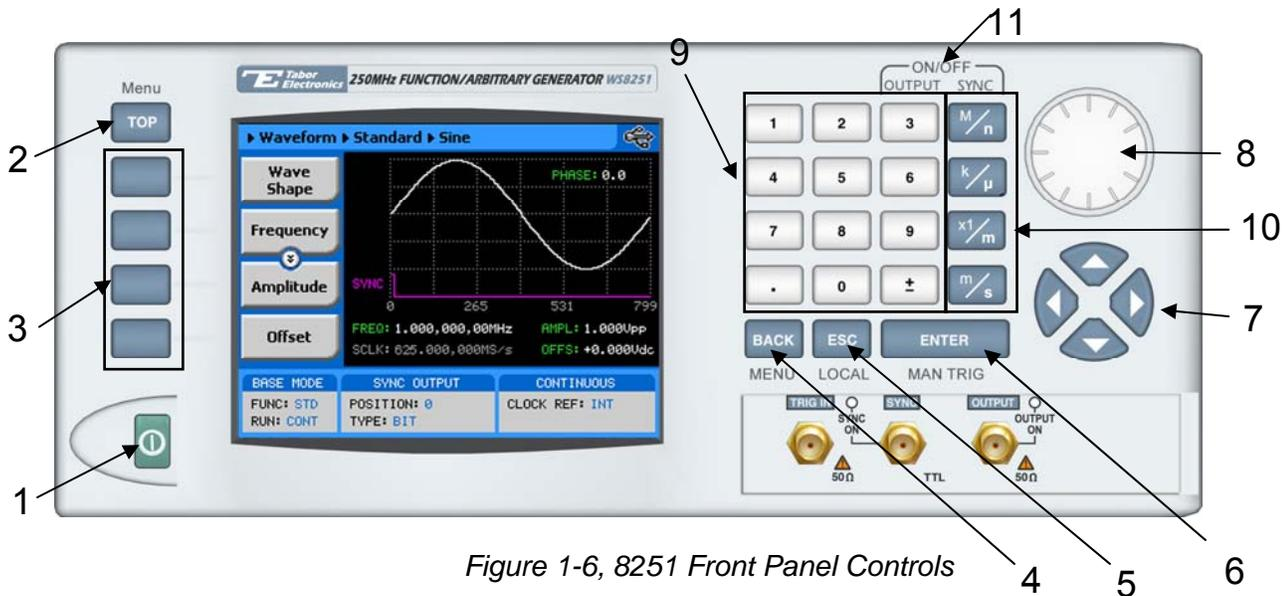

Figure 1-6, 8251 Front Panel Controls
Front panel controls and keys are grouped in logical order to provide efficient and quick access to instrument functions and parameters. Refer to Figure 1-6 throughout the following description to learn the purpose and effect of each front panel control.
**The index in the following paragraphs point to the numbered arrows in Figure 1-6.**